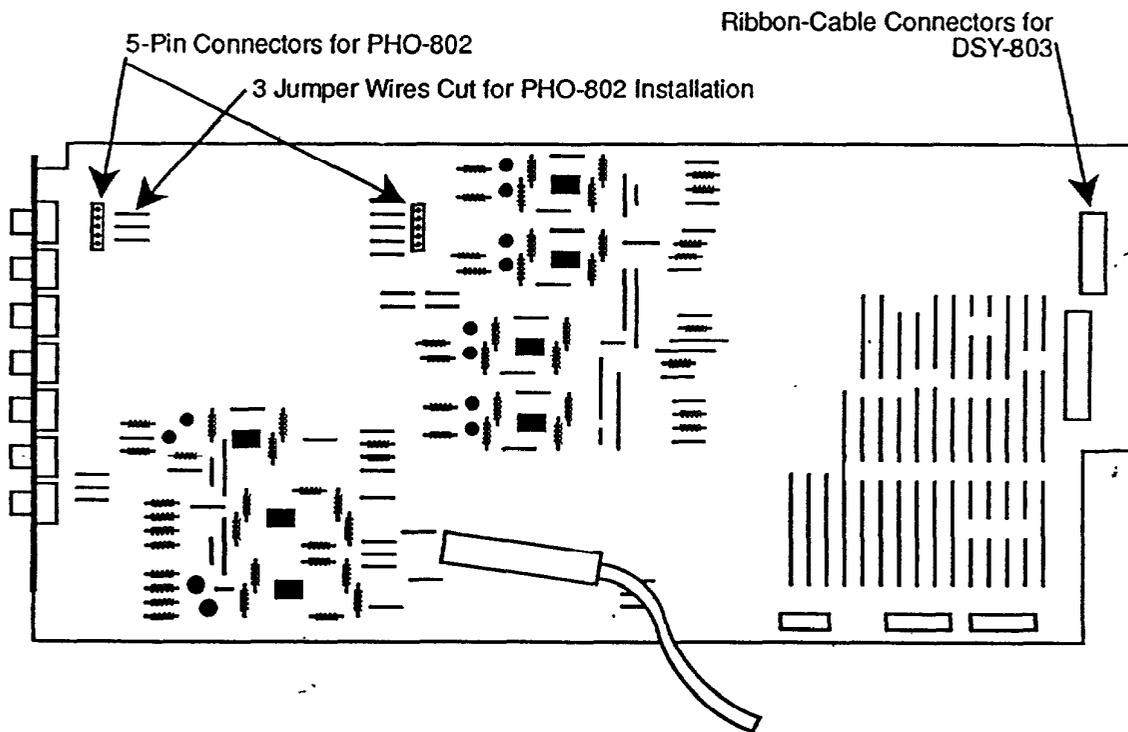

Figure 1. View of INPUT SIGNALS/REMOTE CONNECTORS Assembly Showing INPUT SIGNALS Board
3. Wiggle free the card-edge connectors on both boards, and gently lay the assembly so that the INPUT SIGNALS board is accessible (see figure 1). Be careful not to kink or stress the blue connecting ribbon leading from the board to the rotary switch on the GFB-800's front panel.
4. Remove entirely the three jumper wires indicated on figure 1.
4. Carefully open the two white ribbon-cable connectors on the INPUT SIGNALS board. They are located on the end of the board toward the front of the GFB-800, away from the back-panel external connections (see figure 1). While maintaining the orientation of the ribbon cable as it is connected to the jumper board, insert the two lower cables into the larger, lower connector on the INPUT SIGNALS board, and the topmost cable into the smaller, upper connector. Be sure that each wire of the ribbon cable is fully inserted and makes proper contact. Snap closed the retaining bars while holding the cables in their contacts.